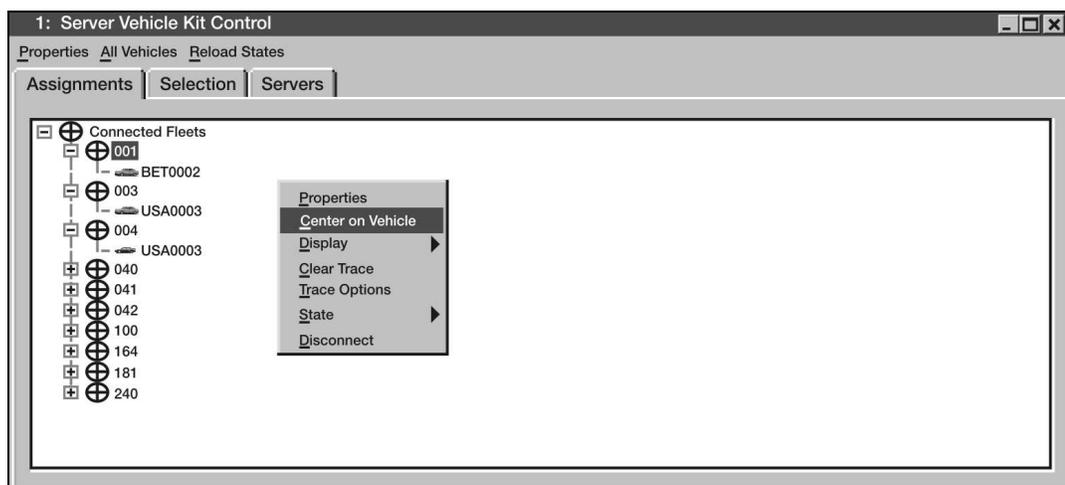

Figure 3-120. Center Map on Vehicle
- i. Center the map on a vehicle (see Figure 3-120).
- (1) Right click on the map to get the pop up menu.
- (2) Choose Select Vehicle.
- (3) Click on the map with the mouse so that the Server Vehicle Kit Control Window pops up.
- (4) Select Assignments tab.
- (5) Open the control group, right click on the vehicle you wish to find, and select Center on Vehicle.